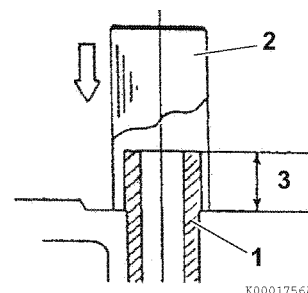

Figure 6-66
3. Finish installing the valve guides (**Figure 6-66, (1)**) into the cylinder head to the proper height (**Figure 6-66, (3)**) using the valve guide installation tool (**Figure 6-66, (2)**). See *Intake/Exhaust Valve and Guide* on page 6-5.